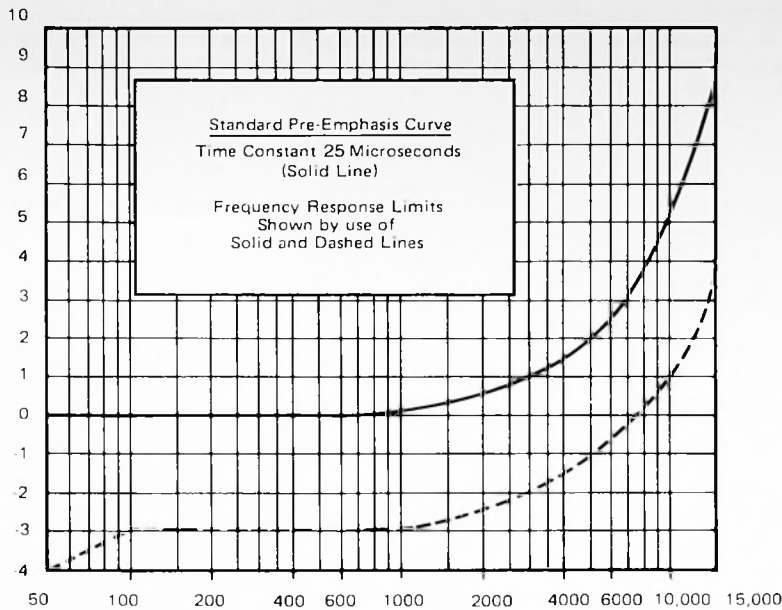

Fig. 69. 25 μ s Pre-emphasis Curve Used with Dolby Fm
1. The 25 μ s pre-emphasis circuit should be checked for proper response using response procedures on page 6 of this booklet. The graph in figure 69 should be used for the 25 μ s plot.